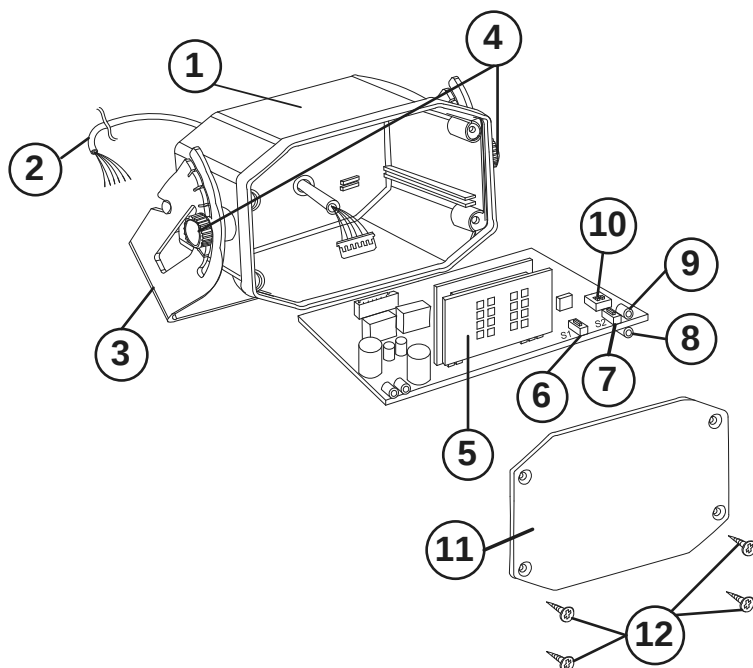
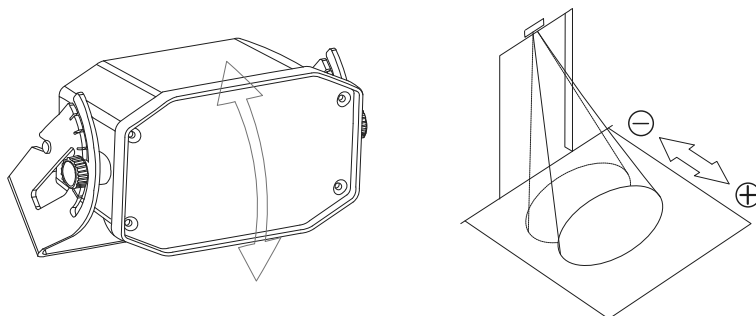
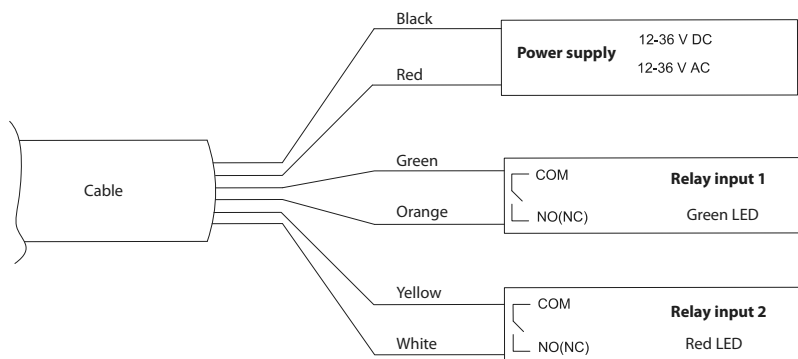

Figure 7
Figure 8
Figure 9
To adjust the inclination, loosen the adjustment screws 4 (Fig. 7) and adjust the operating range of the radar by moving its housing (Fig. 8). After the adjustment is completed, tighten the screws.
The radar is supplied with the cable 2 (Fig. 7), connected to the control board. Connect the power supply and cables to the electric door opener, which is planned to work together with (Fig. 9).
If the remote control is not available, only three functions can be set up with the buttons on the radar control board (see *Table of settings*). In this case, only relay input 1 is available for control (Fig. 9). All other functions must be set up using the RD-T remote control.
1. Remove all four screws 12 (Fig. 7) of the front cover and remove it;
DIP-switches 10 (Fig.7) are required to set up the control channels for the RD-T remote control (see the set up section in the remote control operating manual).